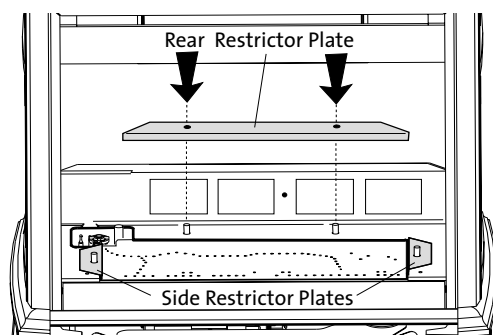

Figure 6. Installing the Air Intake Restrictor Plates.
2. **Optional Restriction - Fig. 6.**